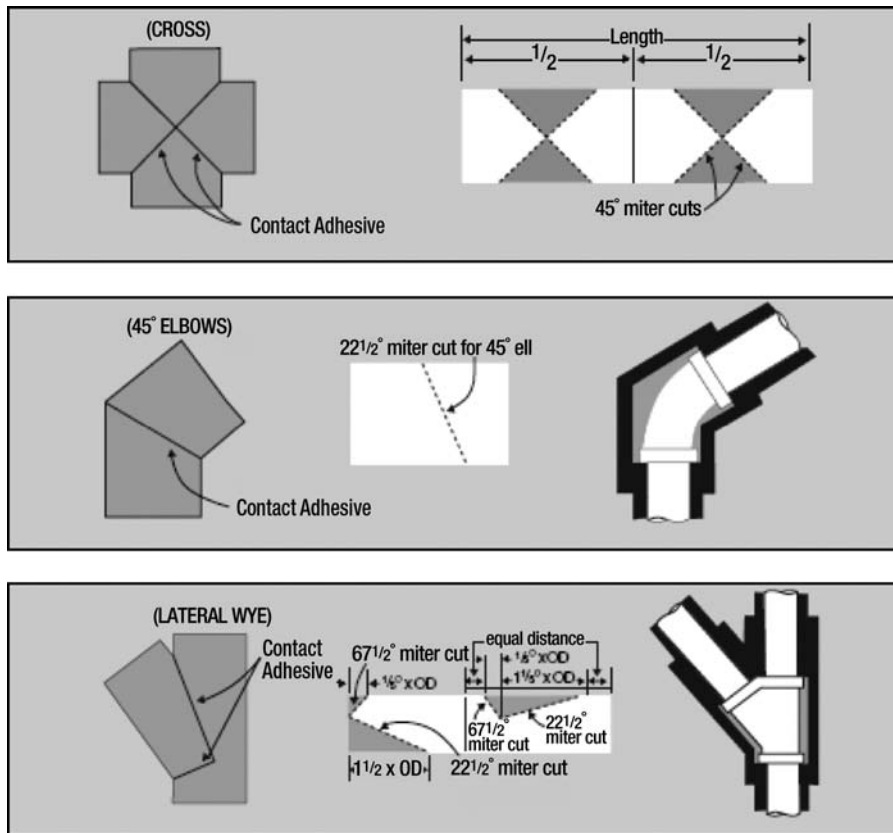

FIG. 8 Examples of Various Pipe Fittings
10.4 *Fittings*—There are several types of fittings: pipe fittings, screwed tee piece fittings (see Fig. 8)